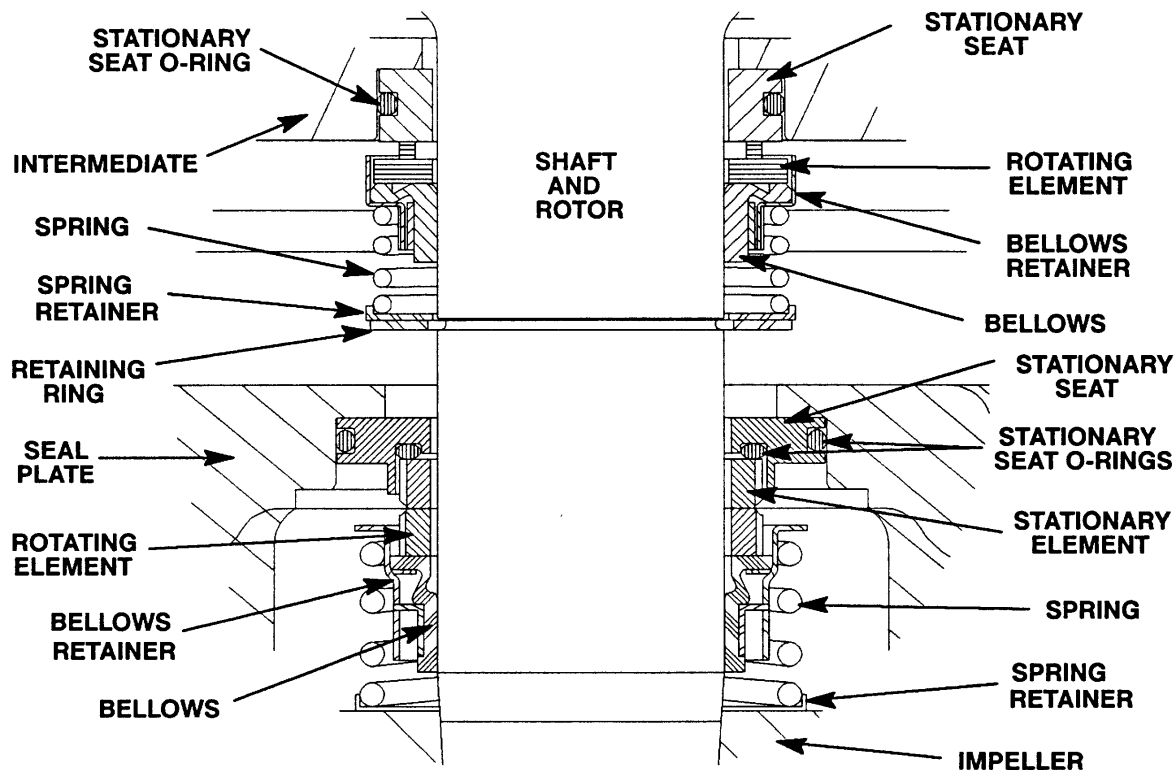

Figure 5. 46512-055 (Lower) And 25271-947 (Upper) Seal Assemblies
Install the shaft seals as illustrated in Figure 5.
Slide the seal spring over the shaft and bellows retainer, and install the spring retainer. Using snap ring pliers, install the seal retaining ring (60). See Figure 5 for proper order of seal assembly.
Unpack the stationary seat, and check that the O-rings are properly installed (see Figure 5). Press the stationary element into the seat, making sure that the grooves in the element engage the lugs on the seat. Apply a **light** coating of oil to the seal plate bore and the outer O-ring. Keep the sealing face dry.
Slide the seal spring over the shaft and bellows retainer, and install the spring retainer. See Figure 5 for proper order of seal assembly.